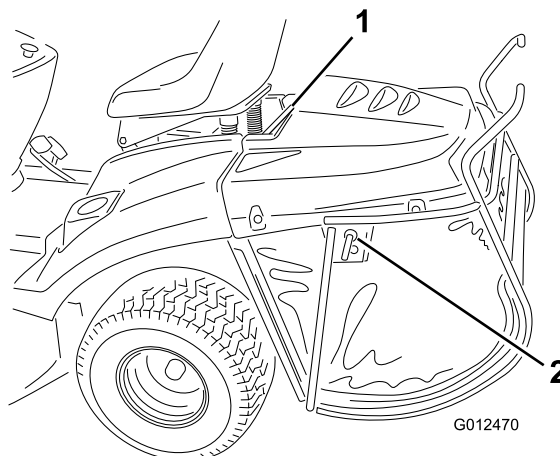

Figure 15
1. If the locking pin is in the locked position, unlock it (Figure 15).